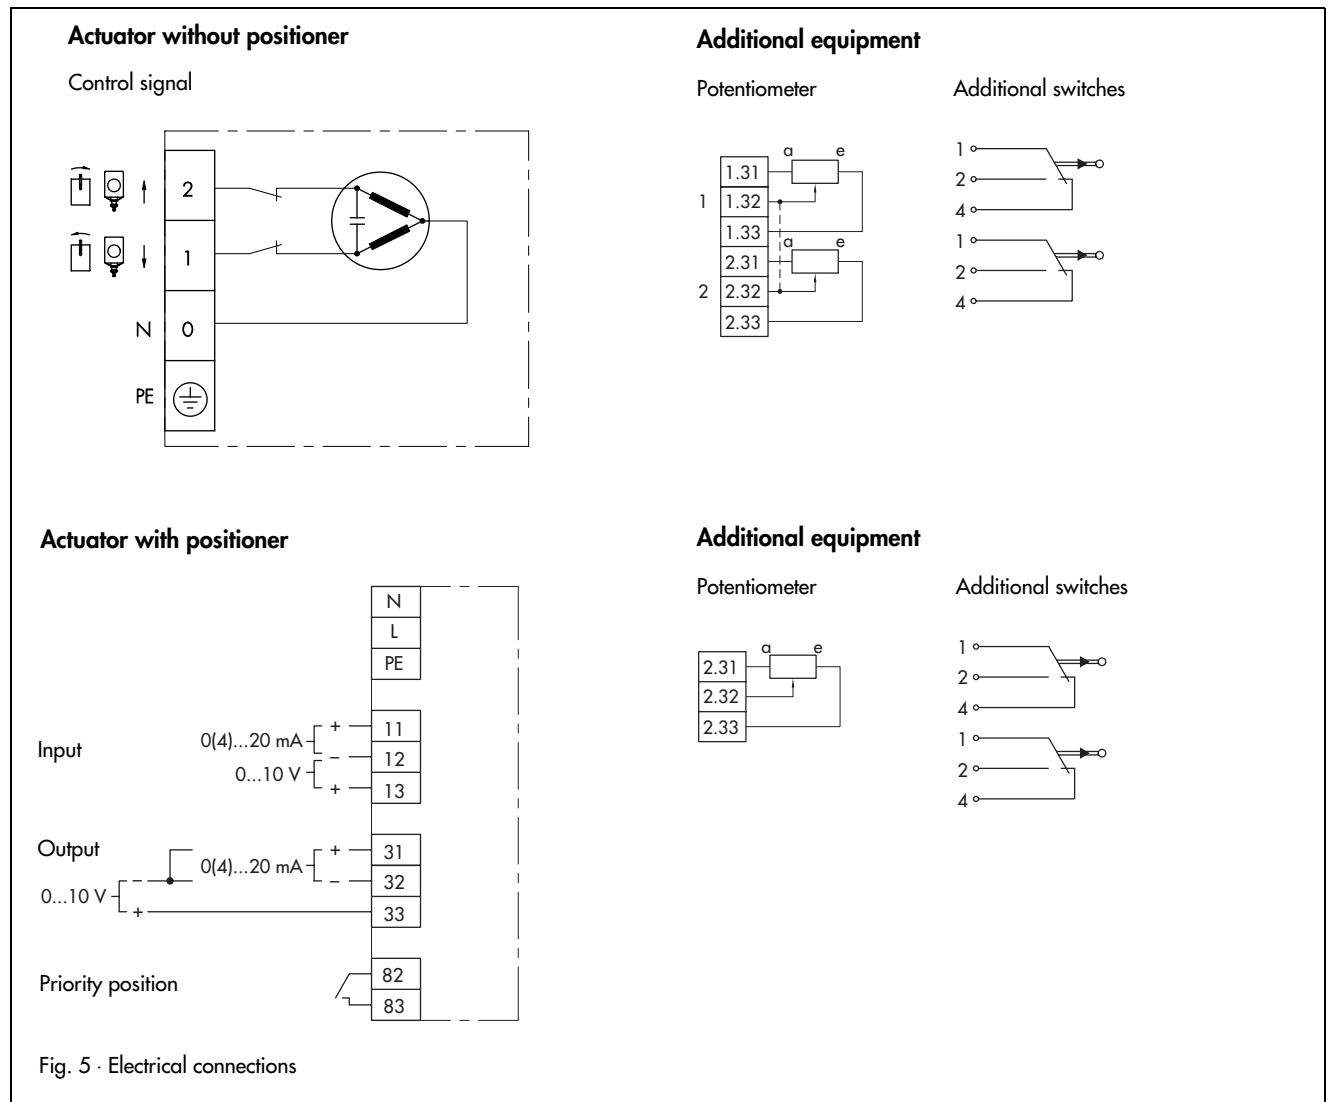

Fig. 5 · Electrical connections
When the cover (7) is removed, an additional positioner, two potentiometers, or two switches, three at maximum, can be installed (circuit diagrams, see Fig. 5).
Electrical connection (Fig. 5)